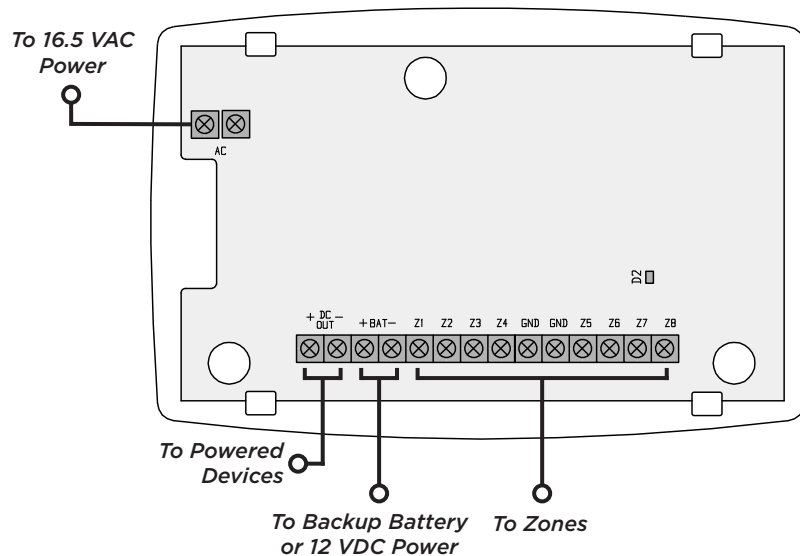

Figure 3: 1158 Zone and Power Wiring
1. Connect the 1158's **AC** power terminals to the existing panel's 16.5 VAC power supply. See Figure 3.
1. Connect the 376L flying leads to the **BAT** terminals on the 1158. See Figure 3.